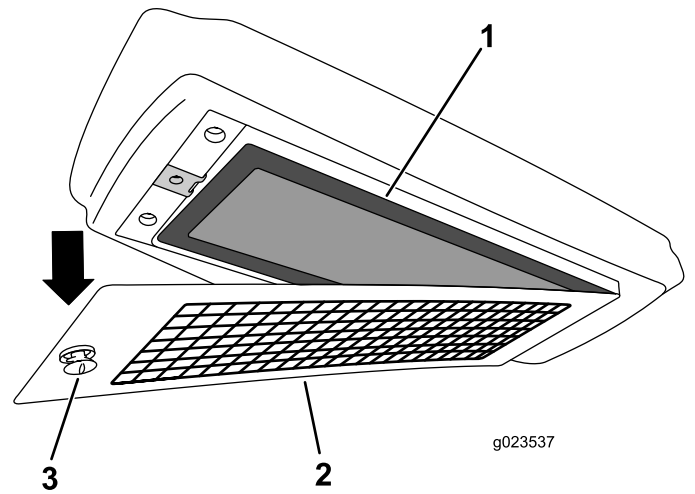

Figure 133
4. Remove the air filter from the housing, and replace the filter element (Figure 133).